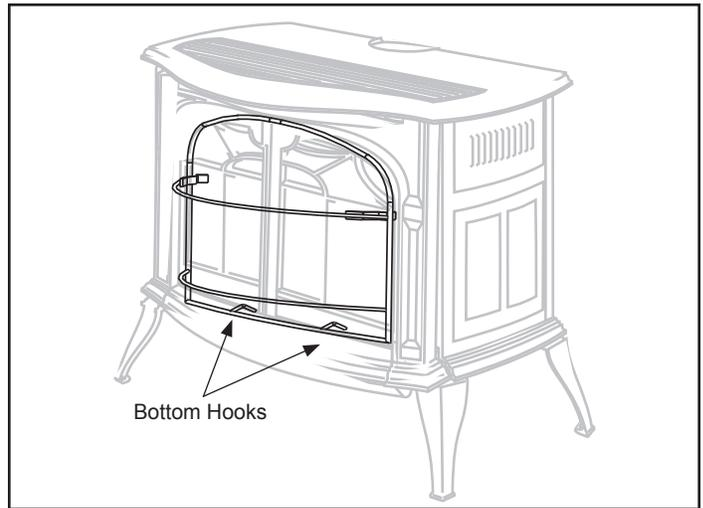

Figure 3.27 - Install safety barrier screen.
2. Place the two bottom hooks over the bottom edge of the stove opening, Figure 3.27.